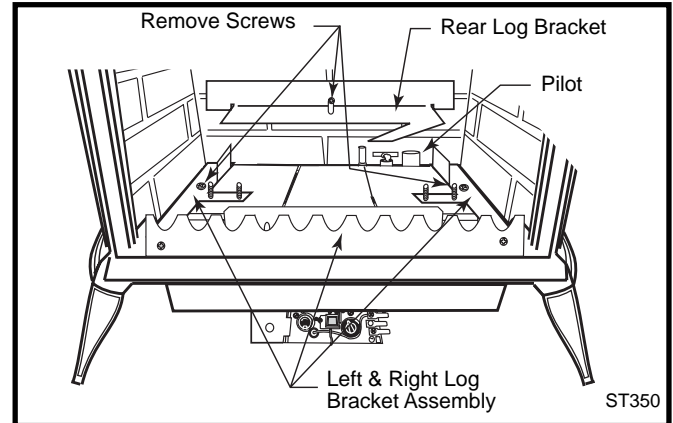

Fig. 38 Remove rear log bracket and left and right log bracket assembly.
5. Remove the rear log bracket by unfastening the screw and pulling the bracket away. (Fig. 38)
6. Remove the right and left log bracket assembly by unfastening the two screws which hold the burner in place. (Fig. 38)
14. Locate pilot. (Fig. 38)